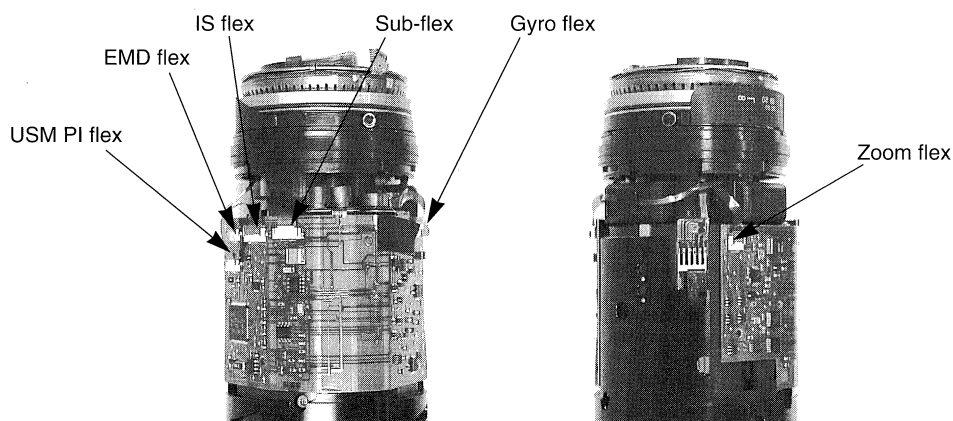

Fig. 3-10 Main Flex Connection
- Remove all flex connectors. (See Fig. 3-10.)